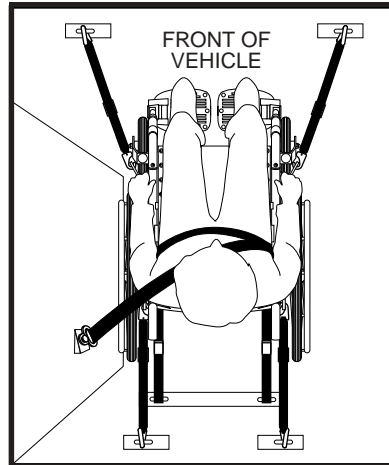

Figure 1. Securing the Wheelchair
- Position the anchor points for the rear tie-down straps directly behind the rear securement points on the wheelchair. The front tie-down straps should anchor to floor points that are spaced wider than the wheelchair to provide increased lateral stability. See figure 1.